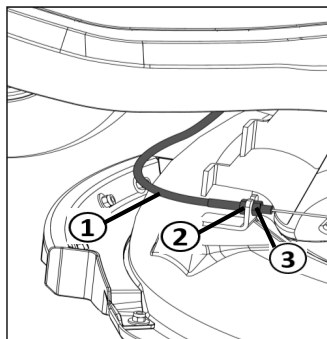

Figure 40
- To adjust the Bowden cable (Figure 40 ①), loosen the two nuts (Figure 40 ② and ③).
- If the mowing mechanism can no longer be switched on correctly, loosen the nut (Figure 40 ③) and adjust the Bowden cable with the nut (Figure 40 ②) until the mowing mechanism can be switched on correctly again.
- If the mowing mechanism can no longer be switched off correctly, loosen the nut (Figure 40 ②) and adjust the Bowden cable with the nut (Figure 40 ③) until the mowing mechanism can be switched off correctly again.